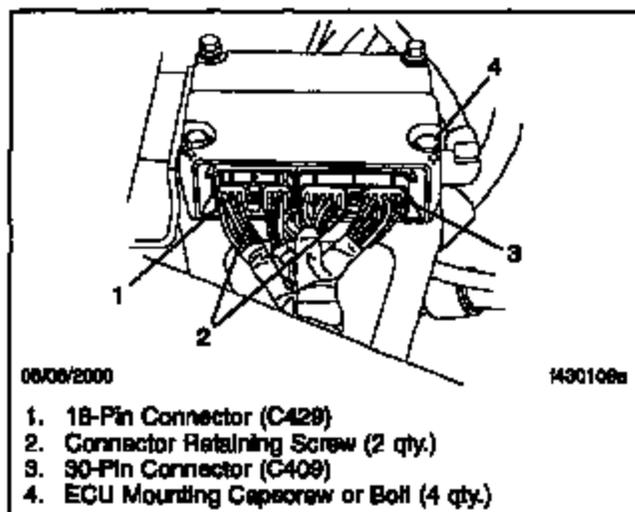

Fig. 1, ECU Installation (relay mount shown)
4. Remove the two retaining screws securing the electrical connectors to the ECU. See Fig. 1. Remove the connectors.